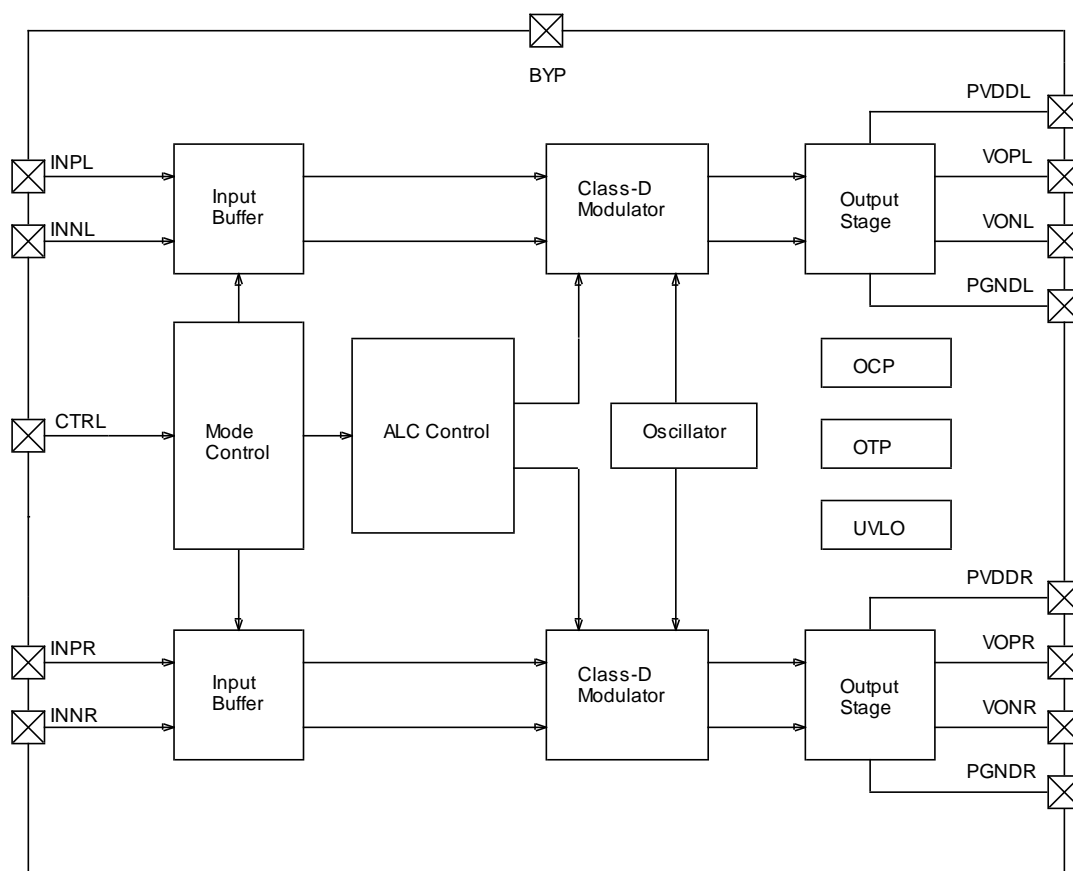

Figure 1: Simplified Functional Block Diagram of ft2705
1. Added snubber circuits across audio outputs VOPL/R and VONL/R in Figure 1, 31, 32, and 32.